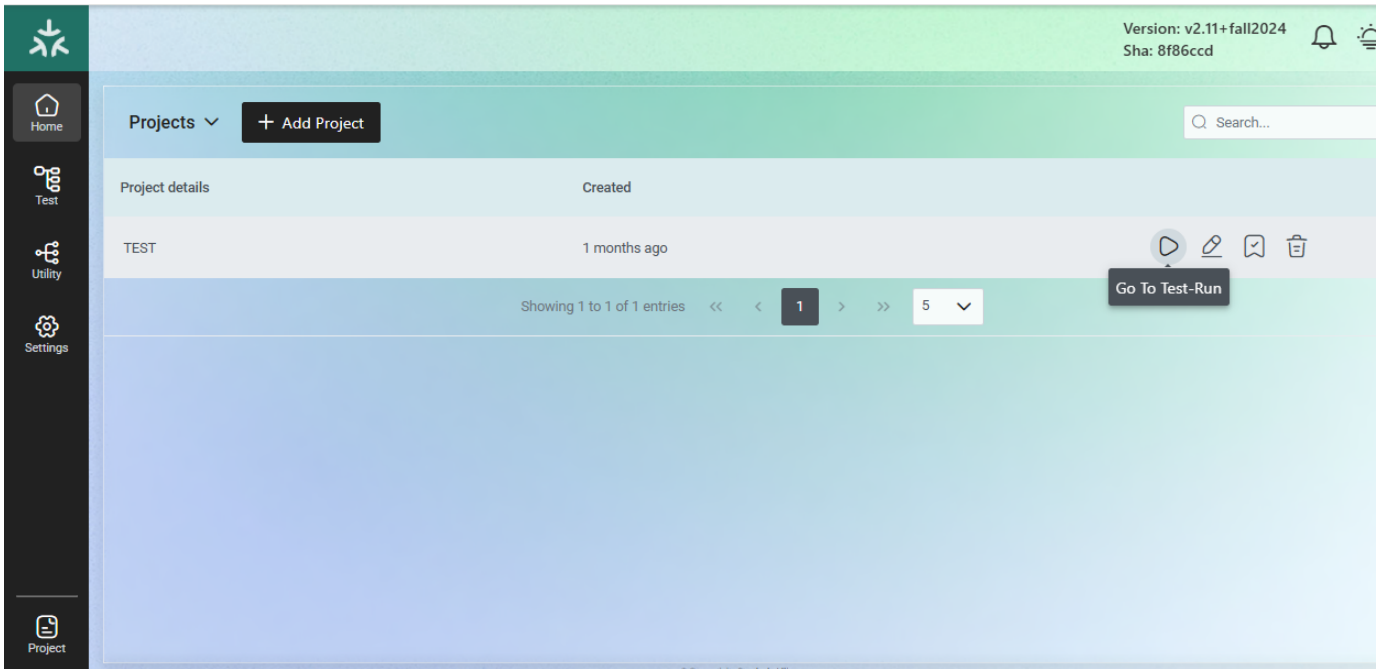

Figure 28. Test run selection
8. Click **Go to Test-Run** and create a new Test Run batch, see Figure 28.